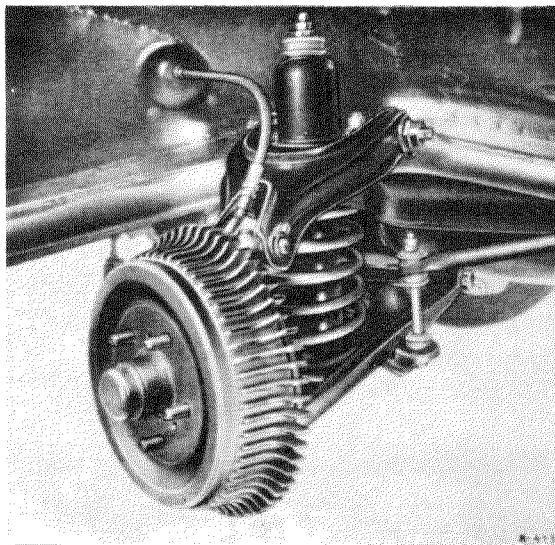

Fig. 33 — 2/5
11. Then unscrew the brake hose at the left or the right of the brake line at the brake anchor plate (Fig. 33 — 2/5).